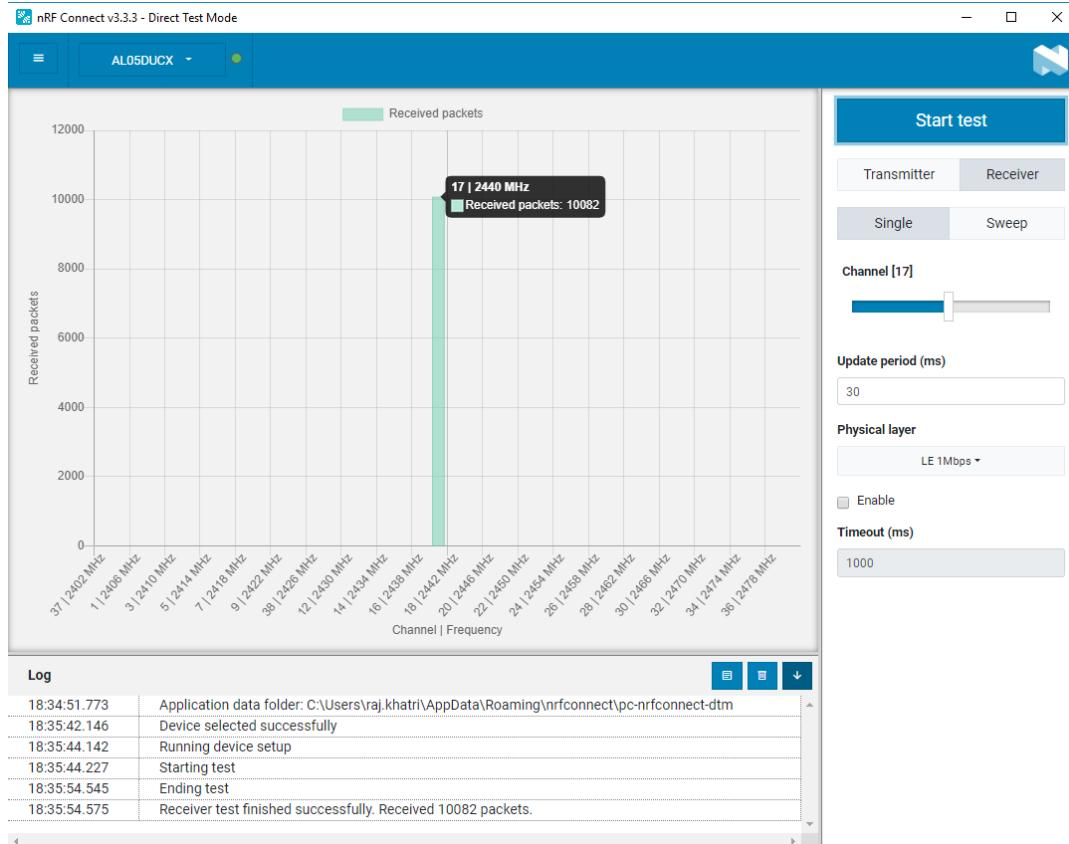

Figure 10: Successful initiation of BLE receiver rest (received packets)
2. Once configured, to start Receiver test, click **Start test**. Figure 10 shows a BLE receiver test running.